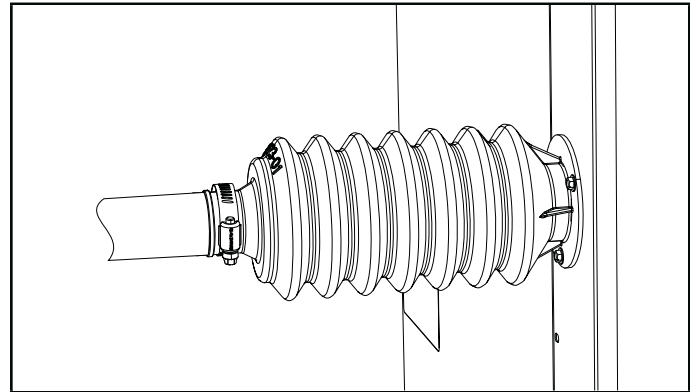

FIGURE 5. Band Clamp Installed on Sleeve
Connect the properly-sized field-provided liquid line to the liquid line stub as shown in figure 5 using the following procedures:
- 3 - Position the band clamp as shown in figure 5 and torque to 25 in-lbs to seal sleeve to line set.
- 2 - Position the band clamp as shown in figures 5 and 7 and torque to 20 in-lbs to seal sleeve to line set.